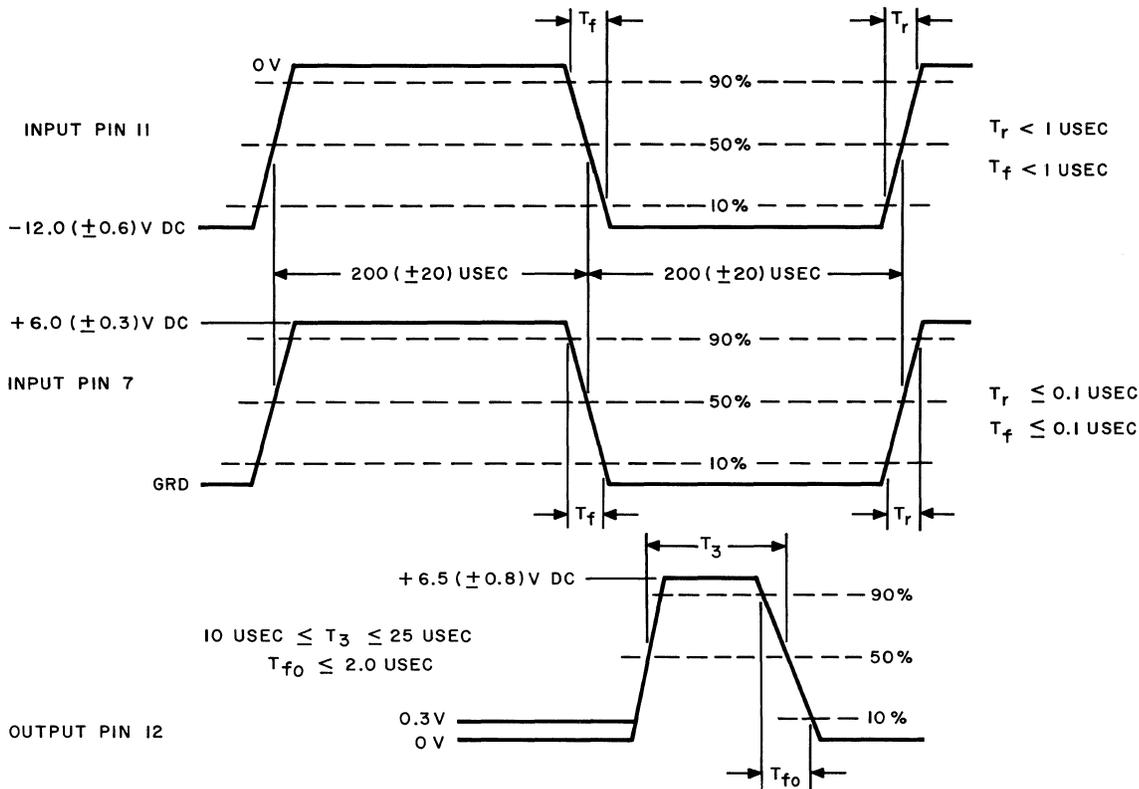

Fig. 46 — Remote Circuit Card Test
- (6) The input waveforms at terminals 7 and 11 shall be as specified in Fig. 46. The relative phase of the input waveforms is immaterial.
- (7) The voltage at test point 5, when measured with the voltmeter, should be +10.0 ( $\pm 1.5$ ) volts dc.
- (8) Set the scope EXT SYNC TRIGGER SLOPE to the (—) negative position.
- (9) The output waveform shall be as specified in Fig. 46.